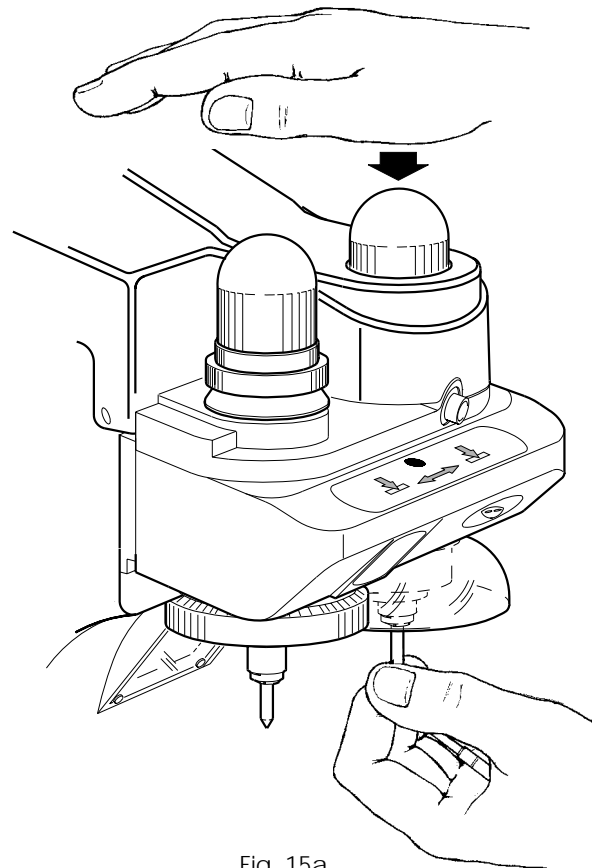

Fig. 15a
- push button (U) while unscrewing knob (M1).
Warning: if the tools are not released entirely from the collet after loosening knobs (M) and (M1) exert slight pressure on the knobs with the right hand (Fig.15a), holding the tools with the left hand to prevent them from dropping.